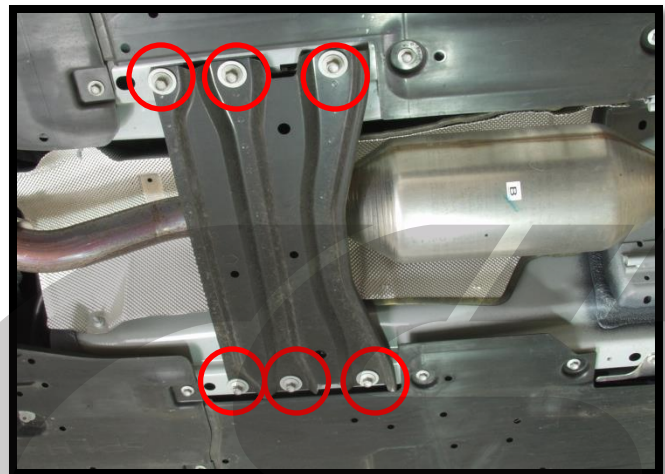

Figure 3b
- d) **Remove the mid body chassis brace** by using a 12mm socket to remove the six (6) bolts (red circles in Figure 3b).